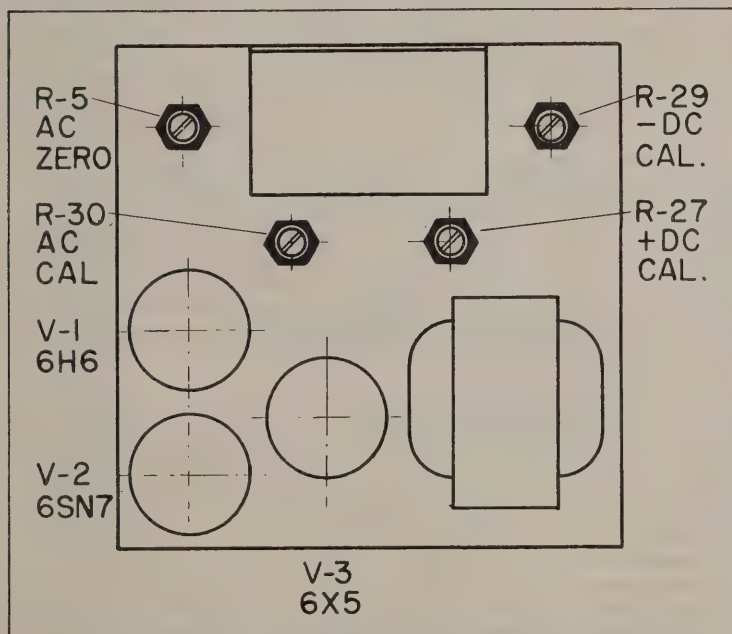

Fig. 2 - Top View of Chassis - Location of calibrating pots.
B. D-C VOLTMETER CALIBRATION: (See Fig. 2) To calibrate the d-c voltage ranges, use two flashlight batteries connected in series. The terminal voltage will be 3.10 volts when fresh batteries are used. Set the FUNCTION switch to "-DC" and the RANGE switch to "5V". Short the D-C (red) probe to the COMMON lead (ground) and turn the ZERO ADJ. control until the meter pointer is at zero (ignore any change after the test leads are disconnected). Connect the batteries between the D-C test leads with the COMMON (ground) lead touching the positive side of the batteries. Adjust the "-DC" calibration potentiometer R-29 until a 3.10 volt reading is obtained on the meter (3.10 on the 0 to 5 D-C scale). To calibrate the "+DC" voltage ranges, repeat the above steps with the FUNCTION switch set at "+DC" and the positive end of the cells connected to the D-C probe. Adjust the "+DC" calibration potentiometer R-27.
C. A-C VOLTMETER CALIBRATION: (See Fig. 2) To calibrate the a-c voltage ranges, set the FUNCTION switch at "AC" and the RANGE switch at "1000V". Short the AC-OHMS (black) test lead to the COMMON lead (ground) and turn the ZERO ADJ. control until the meter pointer is at zero. Turn the RANGE switch to the "5V" position and adjust the A-C shift balance potentiometer, R-5, until the meter pointer returns to zero. Then turn the RANGE switch to the "500V" position; the meter pointer should move very little, usually not at all. Connect the COMMON and AC-OHMS test leads to the 115 volt A-C supply and adjust the A-C calibration potentiometer, R30, until the meter reads 115 volts. Calibration with the 115 volt A-C supply will result in the instrument being accurate within 5%. If greater accuracy is desired, the instrument should be calibrated against a known, standard A-C voltage.